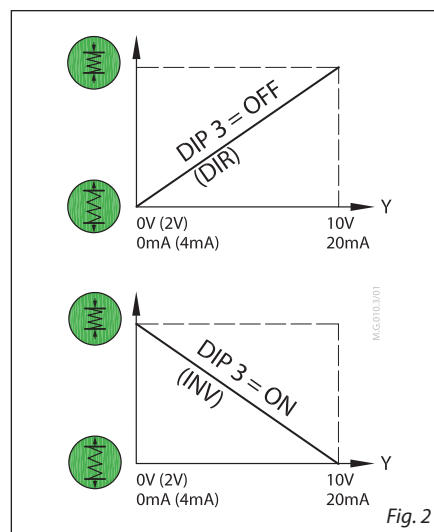

Fig. 2
**Direct or inverse acting selector (Fig. 2):**